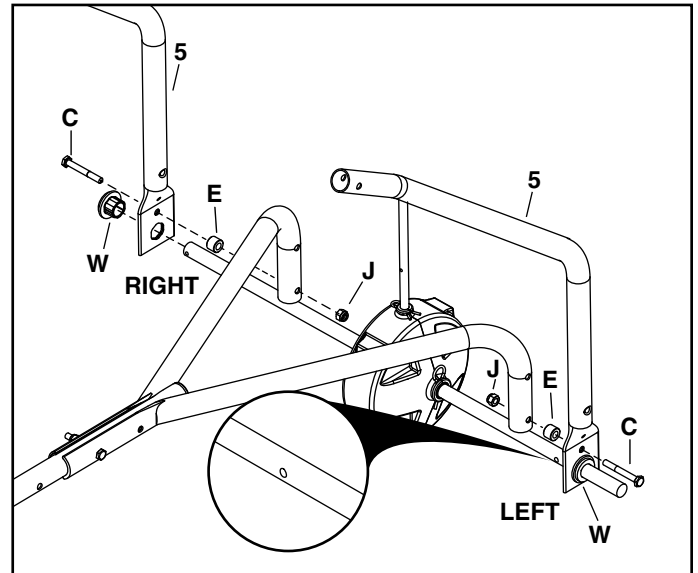

FIGURE 3
STEP 3: (SEE FIGURE 3)
- Insert the hex bushings (W) into the ends of the hopper support tubes (5).
- Assemble the axle/gearbox assembly and hopper support tubes (5) to the hitch support tubes as shown, using two 1/4" x 2" hex bolts (C), spacers (E), and 1/4" nylock nuts (J). **Do not tighten completely.**
- **Make sure to have the holes in the axle on the correct sides as shown in figure 3.**